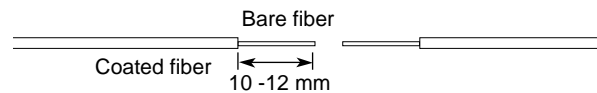

Figure 12
4.5 Strip and clean the fibers using alcohol. Cleave the fibers with an A8 cleaver, leaving 10 mm of bare fiber (Figure 12).